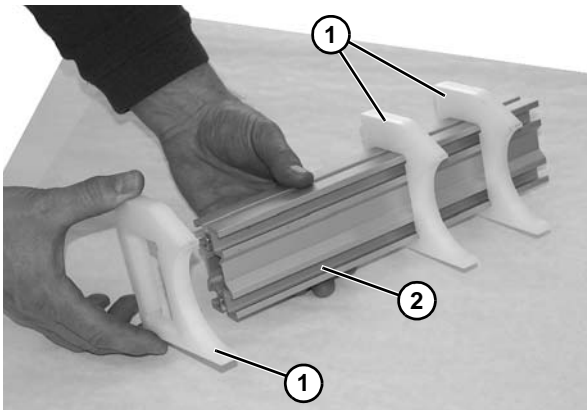

Figure 56
- Remove gap filler plates (**Figure 56, item 1**) from crossmember (**Figure 56, item 2**).